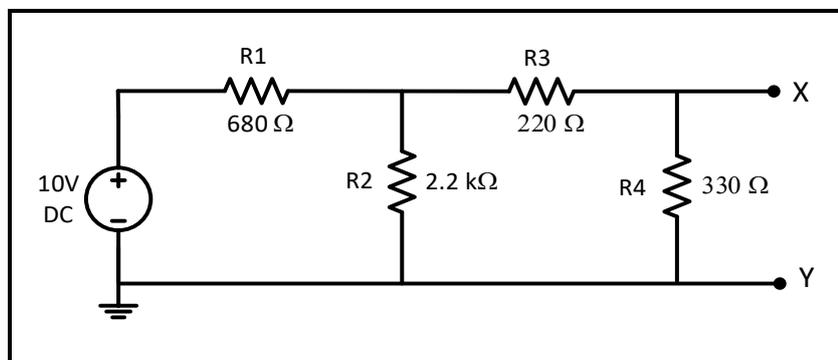
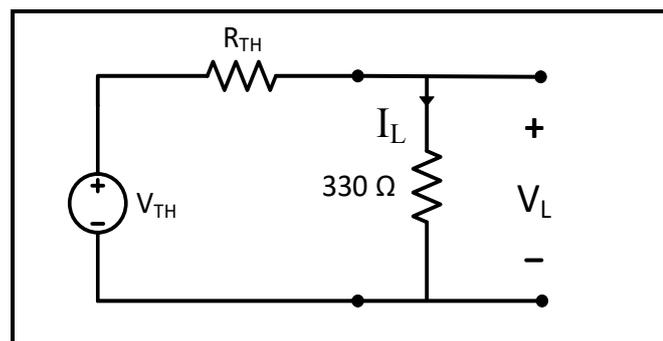

Figure 4.5
Figure 4.7
1. Find and draw the Thevenin equivalent with respect to the terminals X, Y for the circuit in Figure 4.5 (**Show calculation of $V_{Thevenin}$ and $R_{Thevenin}$**).
2. Simulate the circuit of Figure 4.5 using PSPICE to determine the value of voltage around and current through the 330 Ω resistor.
3. Simulate Thevenin equivalent circuit that you found in step 1 shown in Figure 4.7 using PSPICE to determine the value of voltage around and current through the 330 Ω resistor.
- Connect the circuit of Figure 4.5 and set the power supply voltage to 10V.
9. Based on your calculation of $V_{Thevenin}$ and $R_{Thevenin}$ in your pre lab, connect Thevenin's equivalent circuit for the circuit of Figure 4.5 as shown in figure 4.7 (use decade box for $R_{Thevenin}$), measure the voltage across and the current through the 330 Ω resistor, record results in Table 4.7.
Question 3: Compare the measured values of load voltage and current in Thevenin's circuit and in the original circuit in figure 4.5. Compare the value of R_{Th} in the three methods of measurement.
1. Connect the circuit of Figure 4.5 (note capacitor polarity), set voltmeter to 20 V range, set ammeter to 200 μA range, and leave the power supply turned off (switch at 0 position).